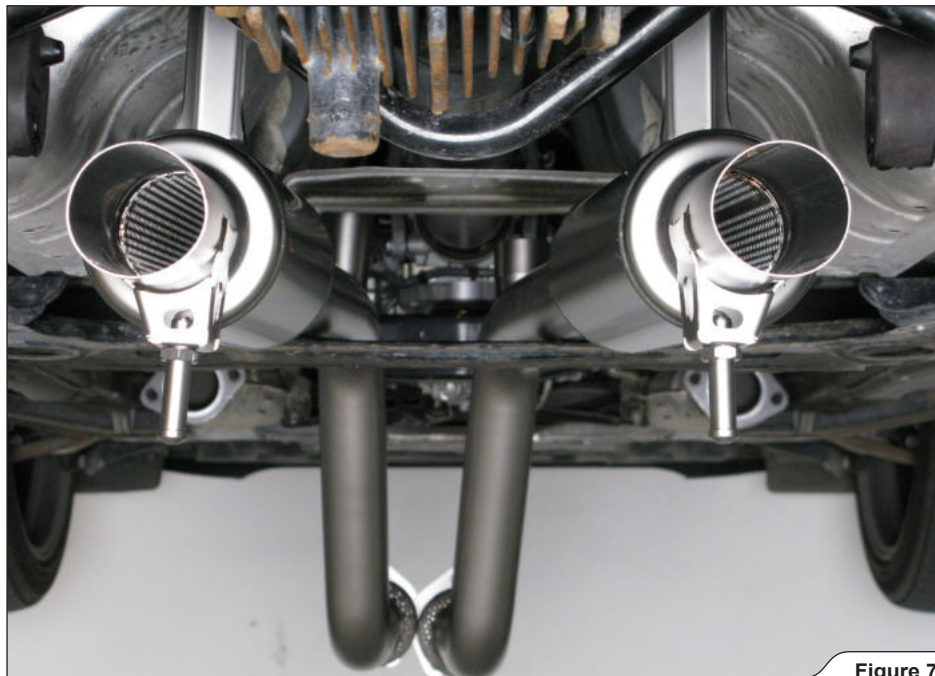

Figure 7
1. **For Evolution only:** assemble Akrapović front tubes onto the vehicle separately, as shown (Figure 7).